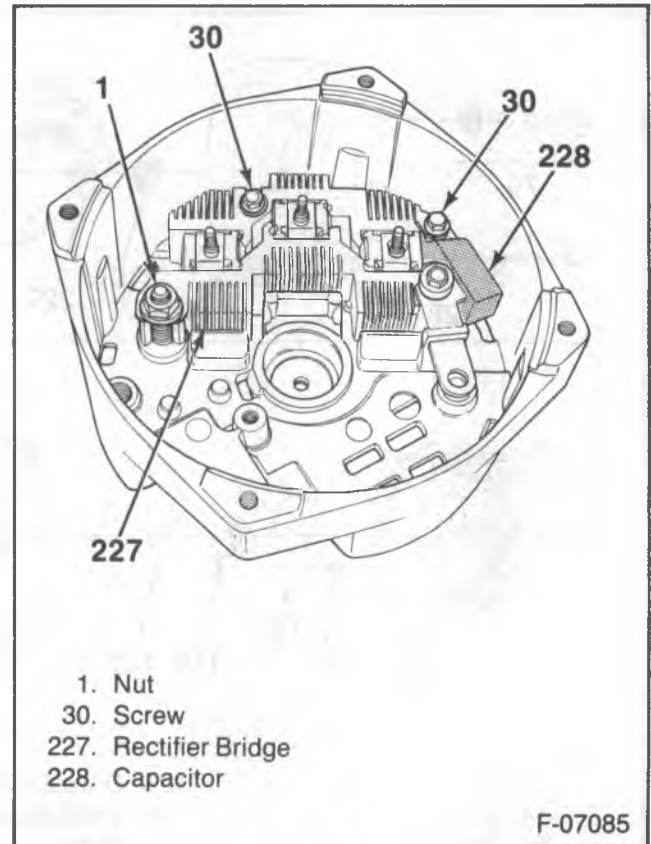
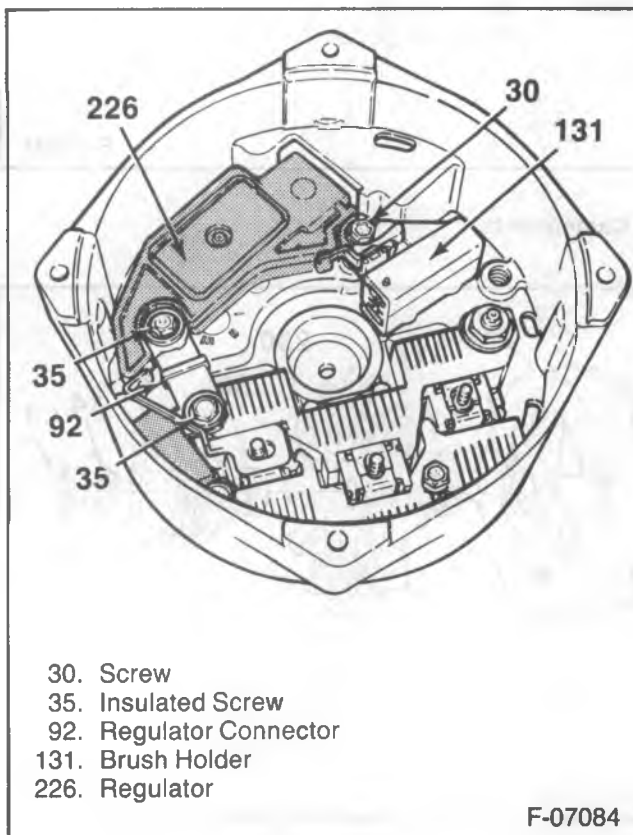

Figure 8—Rectifier Bridge in End Frame
Figure 7—Slip Ring End Frame with Stator Removed
↔ Remove or Disconnect (Figures 7 and 8)
2. Stator (220).
3. One screw (30) from the brush holder and two insulated screws (35) from the regulator connector.
4. Brush holder (131), regulator (226) and connector (92) from the end frame (figure 7).
5. BAT terminal nut (1) from the insulated heat sink.
6. Two screws and washers (30) from the grounded heat sink.
7. Capacitor (228) and rectifier bridge (227) from the frame (figure 8).